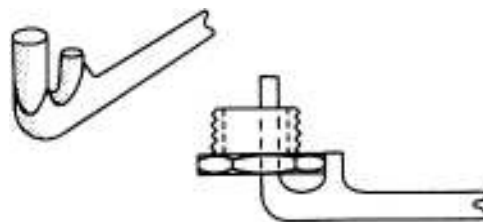

Fig. 14.44 Bush spanner
*Bush spanner* (Fig. 14.44). This tool is for use on inaccessible bush nuts.